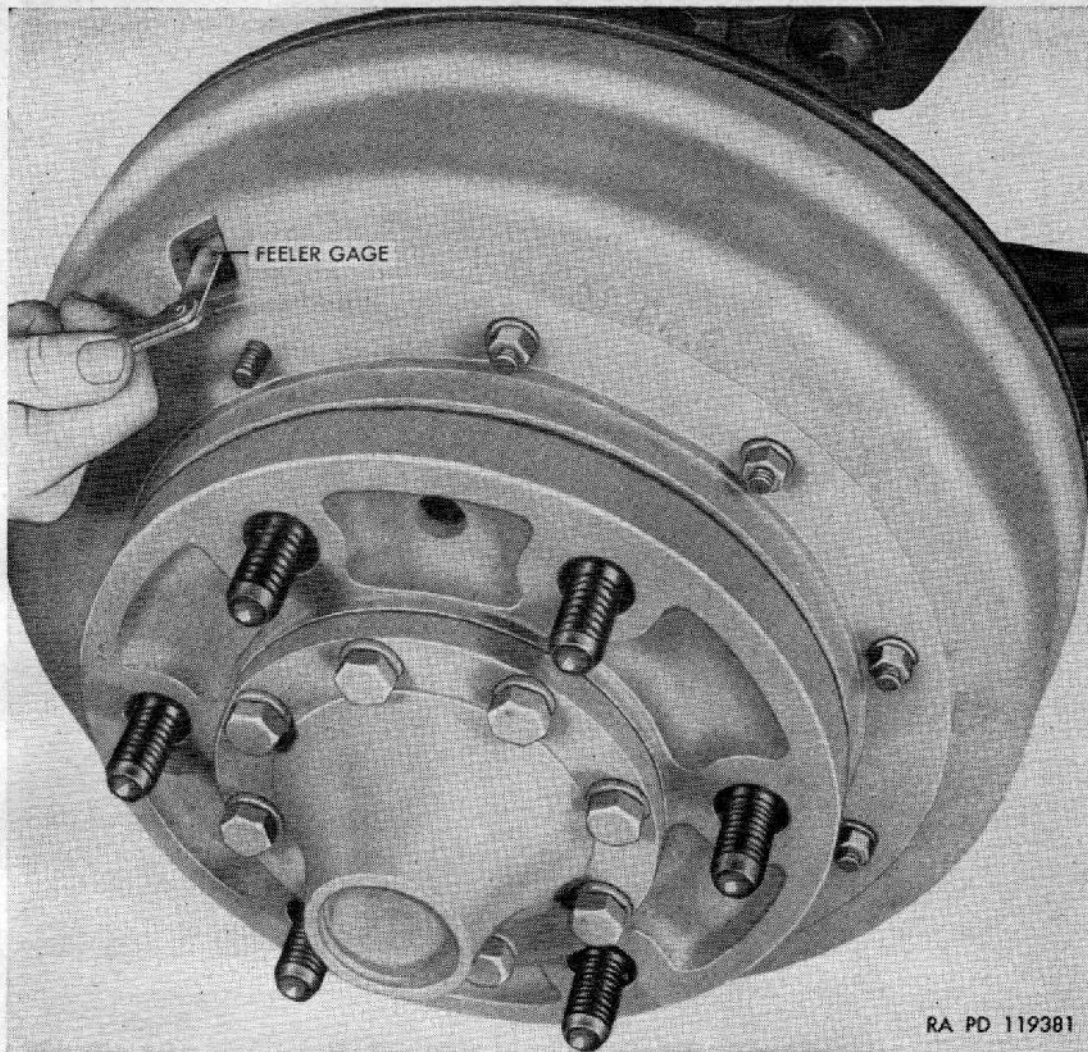
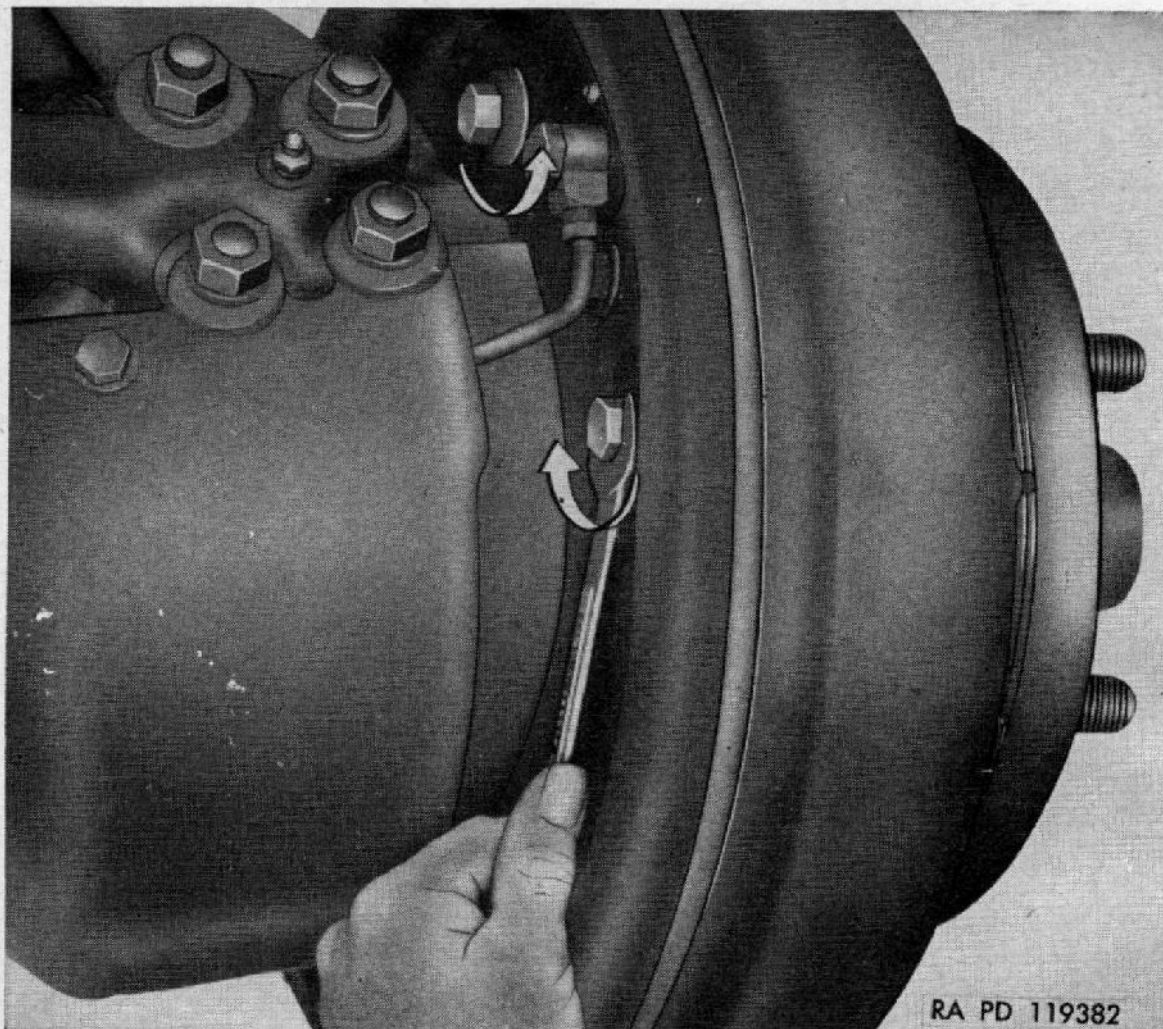

Figure 99. Checking brake lining clearance.
Figure 100. Adjusting brake lining clearance.
be obtained unless wheel bearings are in proper adjustment. Brake lining clearance (fig. 99) can be checked without removing brake drum (*c* (2) below). Do not adjust brakes when drums are hot.
b. MINOR ADJUSTMENT. Adjust brakes by turning front-shoe adjusting cam clockwise (fig. 100), to bring lining into contact with drum, until brake drags slightly when wheel is turned by hand. Back off adjusting cam just enough to allow wheel to rotate freely. Repeat this procedure at rear-shoe adjusting cam, turning cam counterclockwise (fig. 100). Make both adjustments at each wheel as uniform as possible.
- (1) Remove wheel (par. 183).
- (2) Remove inspection cover on front of brake drum (fig. 99). Rotate drum until opening is $1\frac{1}{2}$ inches from bottom end of forward brake shoe. Insert 0.010-inch feeler gage between drum and bottom end of shoe. Loosen lock nut on anchor